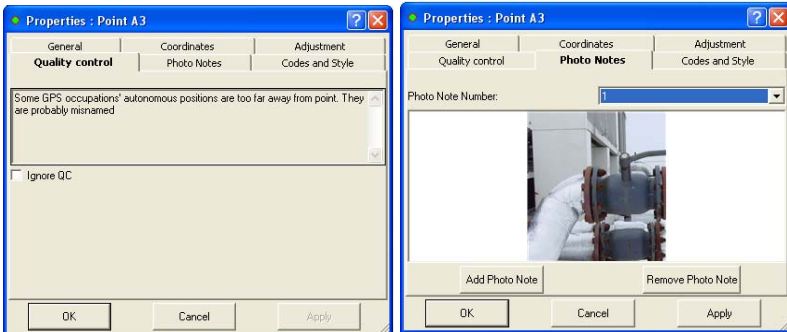

Figure 5-100. Quality Control and Photo Notes Properties
- View *Quality Control* tab contains informational text on selected points (marked in red on the views) that did not pass some of the quality control checks (Figure 5-100 on page 5-64). To turn off the feature that marks a point red when it fails some quality control tests, select the *Ignore QC* check box.
- The *Photo Notes* tab (Figure 5-100 on page 5-64) displays the image(s) per the point. It is possible to add image(s) for the point.